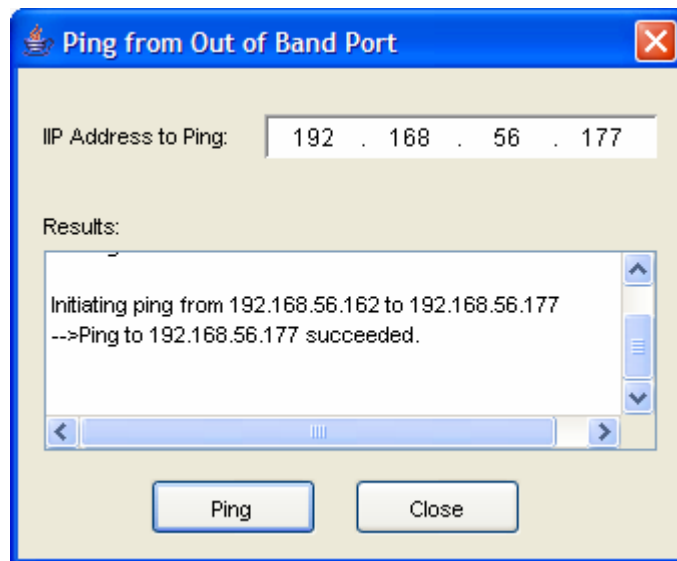

Figure 7-2. Pinging from the Management Port
2. On the **File** menu, click **Ping from Out of Band Port**. A dialog box similar to the one in Figure 7-2 appears.